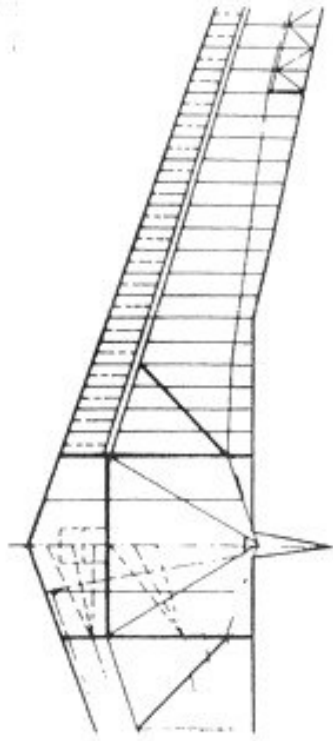

Figure 2
*“When I first designed the H IV it had a straight trailing edge with a bend in it (see Figure 2). When I showed this outline to my brother Walter he was disappointed and declared that it just didn't look good. He took a curve template (see Figure 3) and did draw a curved line for the centre part of the trailing edge (see Figure 4). After some discussion his idea was adopted. I then smoothed out the curve with a quadratic parabola (see Figure 5). Later on at the design for the H VII even superimposed a cubic parabola to this.*